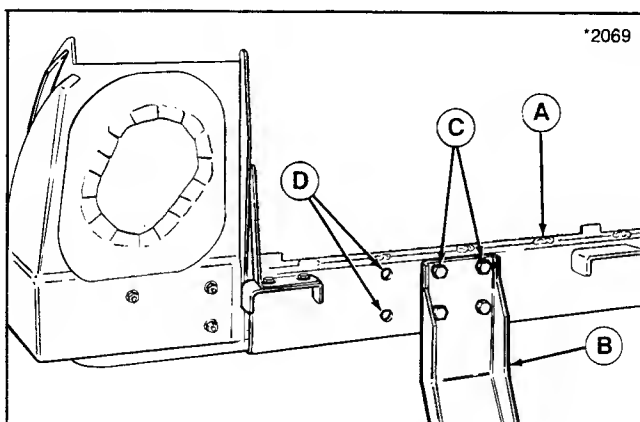

Figure 5.
8. Install horizontal bag support (A, figure 5) to upright (B) with four 3/8-16 x 7/8 capscrews (C) and flange locknuts. Install capscrews from the front and tighten when upright and support are square. Note that the open set of holes (D) is toward the discharge side of mower.